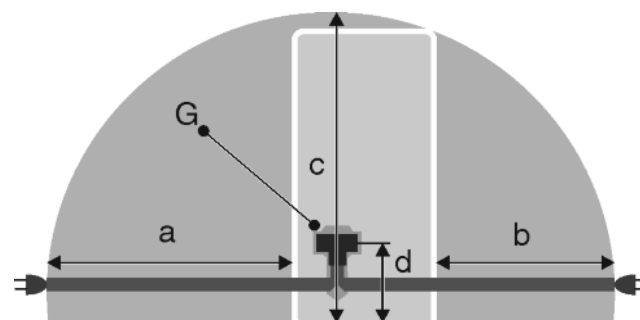

Fig. 31
- The socket is outside the back of the appliance area in the specified area *Fig. 31 (a, b, c)*.
- Insert the appliance plug *Fig. 31 (G)* into the back of the appliance. Ensure that it clicks into place.